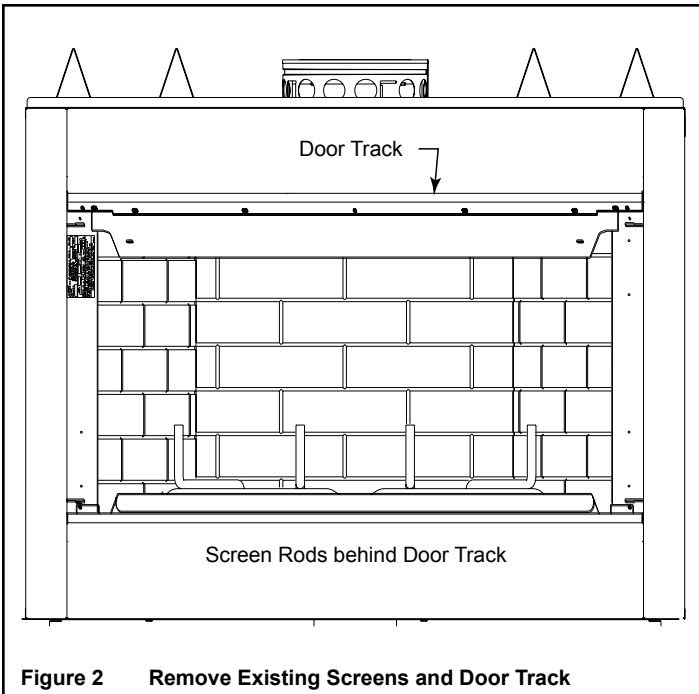

Figure 2 Remove Existing Screens and Door Track
- A. Remove the existing screens (refer to Figure 2):